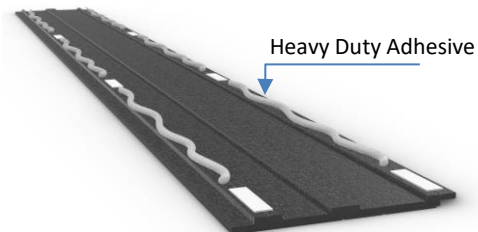

Figure 27
- Apply two strands of Heavy Duty Adhesive, continuous along the length of the bar following its guides on the back of the bar, see illustration figure 27.